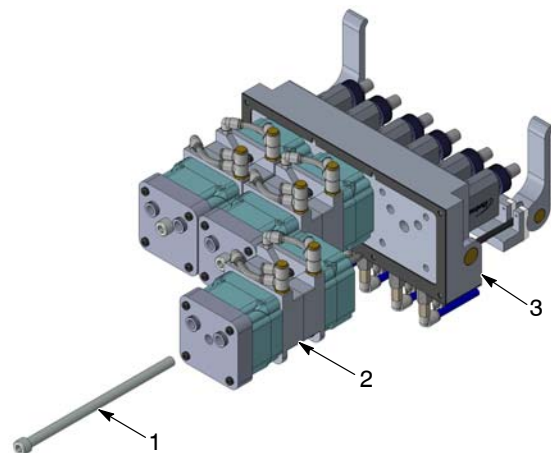

Figure 2 Removing the Siphon Block from the Manifold
1. See Figure 2. Unscrew the socket head cap screw (1) to remove the siphon block (2) from the pump manifold (3). Retain socket head cap screw for reassembly.
**NOTE:** The siphon block (2) can be removed from the pump manifold (3) while the assembly is still attached to the feed center.
- See Figure 2. Using an 8-mm Allen wrench, insert the socket head cap screw (1) into the bottom of the siphon block assembly (2) to secure it to the pump manifold (3).